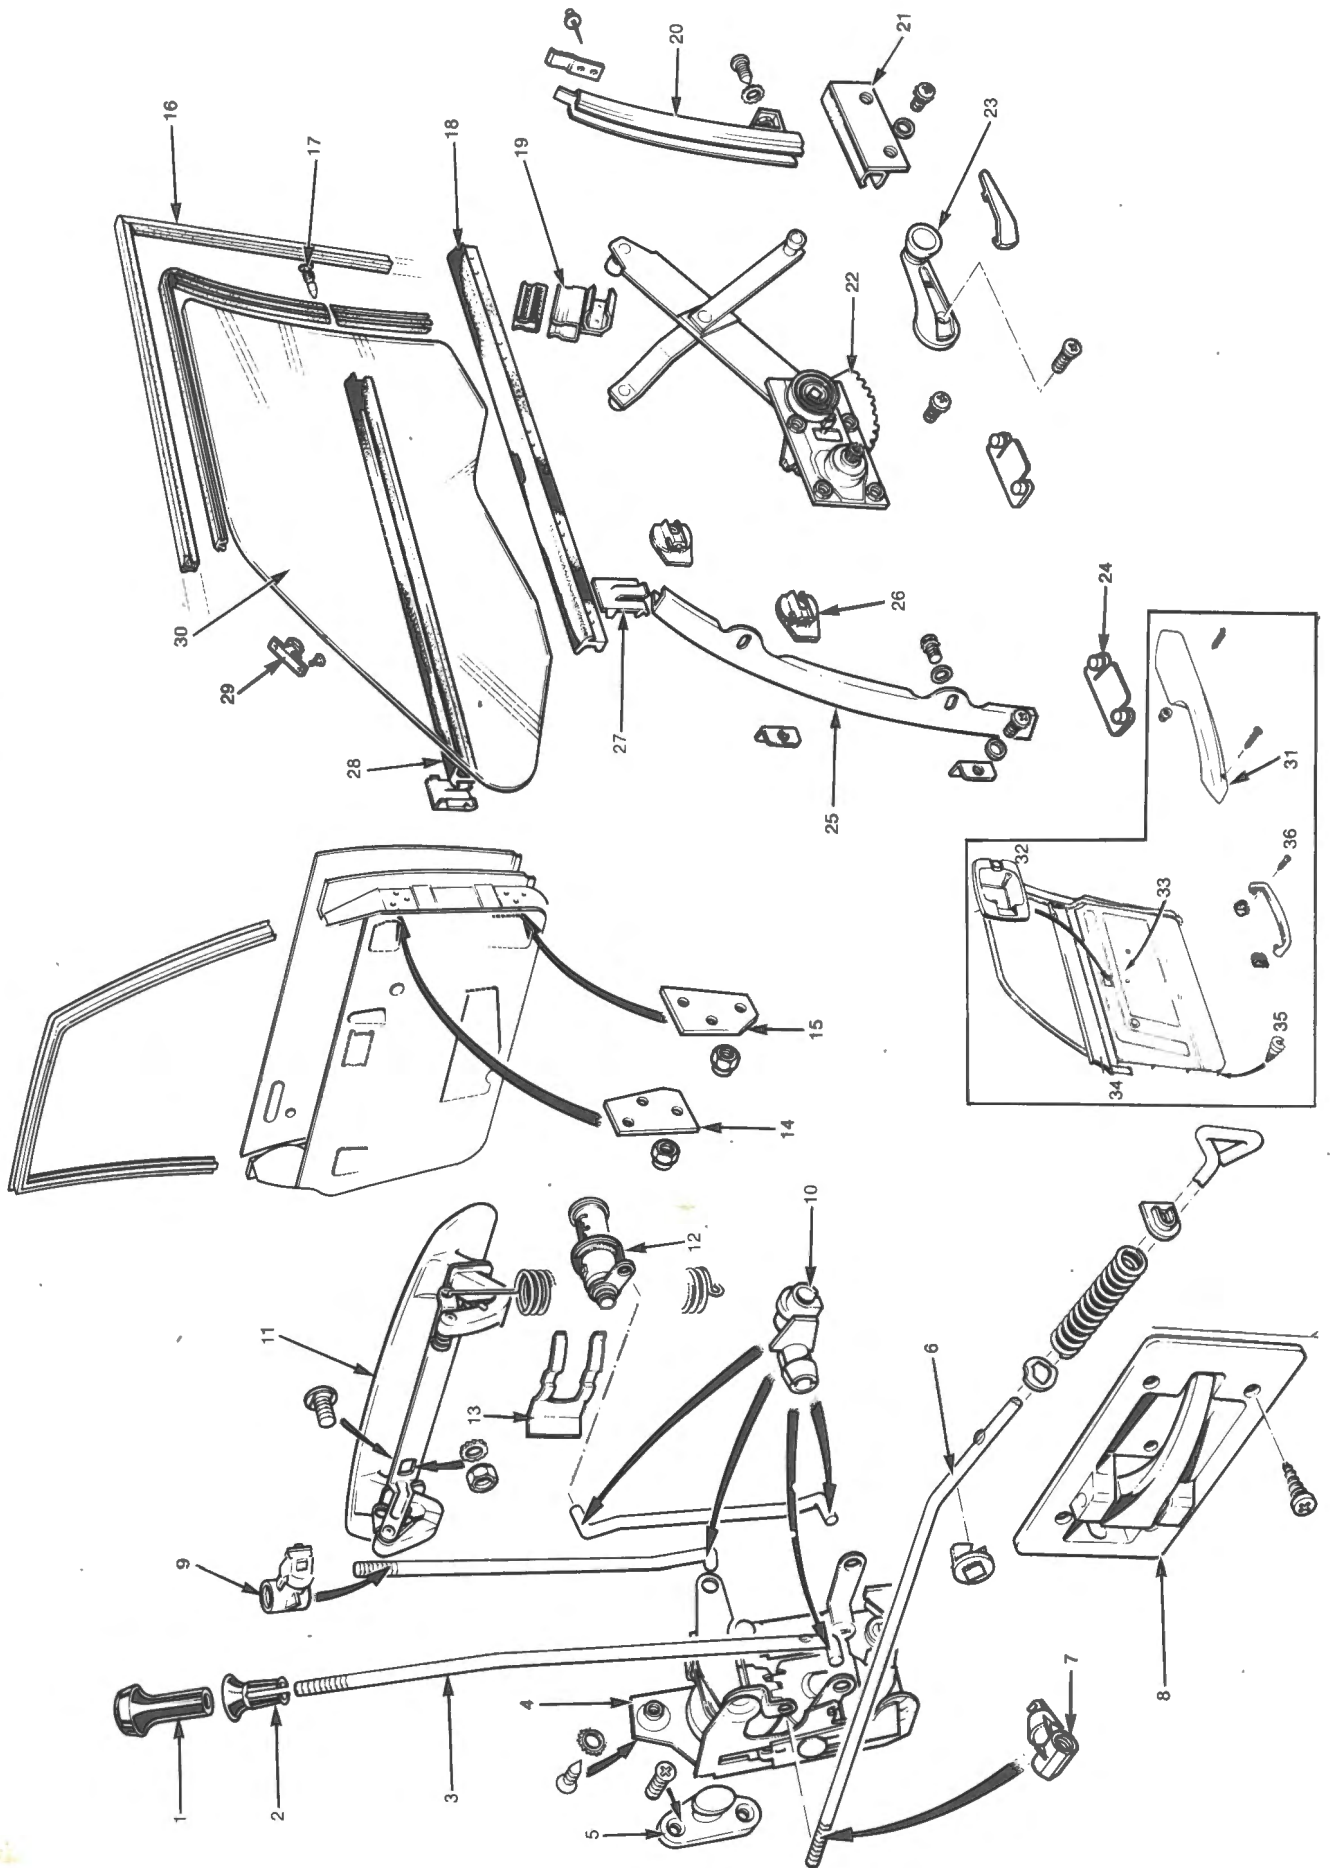

Fig. U-2
- 1 Remove the screw retaining the window winder handle and remove handle. Refer Fig. U-2.
KEY TO FIG. U-2